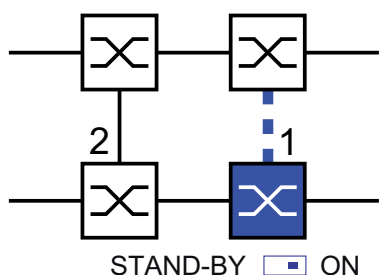

Figure 32: Two-Switch coupling
- Select "Two-Switch coupling" by means of the dialog button with the same graphic as below (see figure 32).